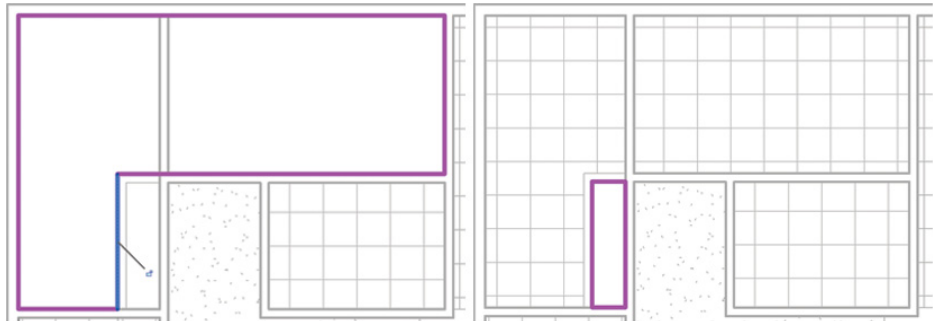

FIGURE 3.36 Editing the boundary
2. The easiest method to edit a ceiling is to select a grid line and choose Edit Boundary from the Mode panel on the Modify Ceilings tab. If the ceiling type does not contain grid lines, you can hover over the edge of the ceiling and use the Tab key to cycle through options until the edge of the ceiling is highlighted. Modify the ceiling as shown in the first image in Figure 3.36.